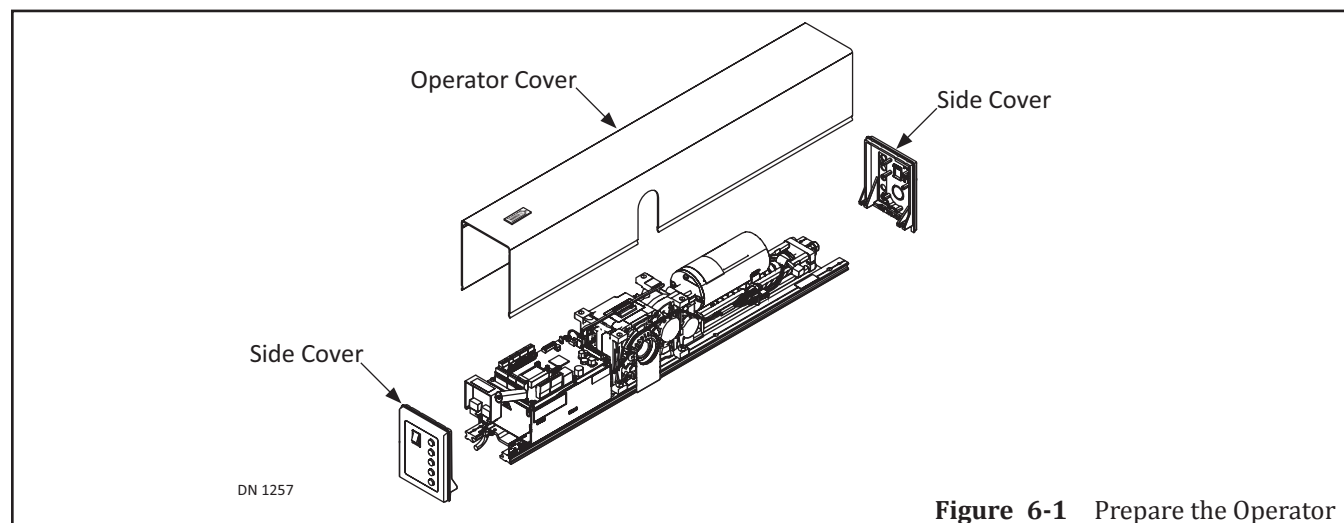

Figure 6-1 Prepare the Operator
2. Lift up and remove the Cover. Set aside. Please see Figure 6-1.